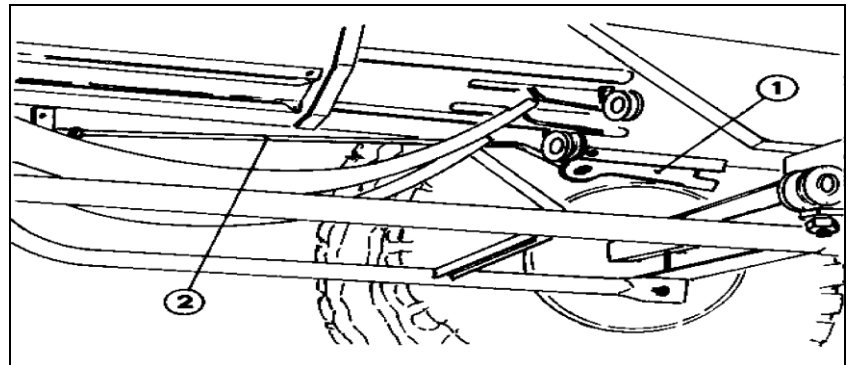

Fig. 7
It comes into action when the layer of the material that the piston knife must cut when baling is too thick and generates excess cutting force, or when the binder needles, during the binding operation, did not come out at the right time from the compression chamber and could not return the piston pawl (no. 1 Fig. 7).
4. Incorrect adjustment of the piston pawl (no. 1 fig. 7 / fig. 13ter p.16)